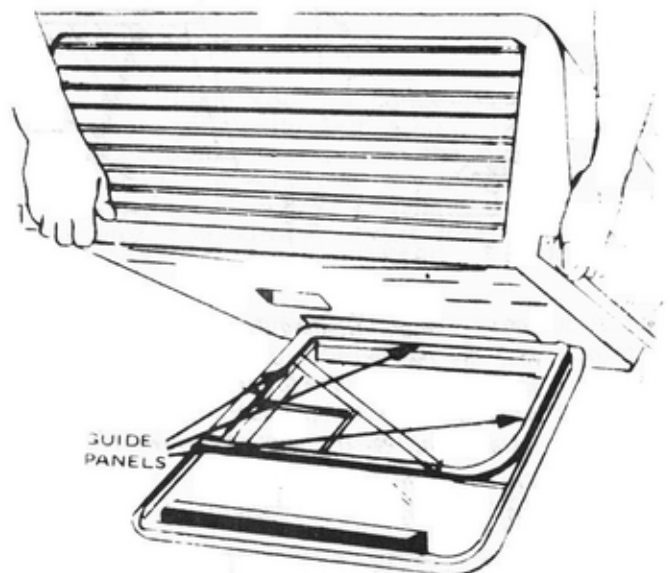

FIGURE 5
5. Set air conditioner on roof flashing, using the guide panels to align return air section on unit with the corresponding opening in roof flashing. **CAUTION:** Do not damage the foam tape sealer on top of roof flashing. Figure 5.